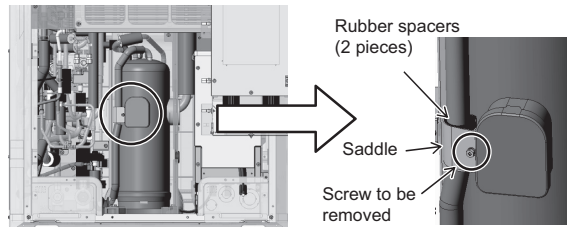

Figure 5
- (5) Remove the saddle and the rubber spacers on the compressor by unscrewing the screw. (See Figure 5.)